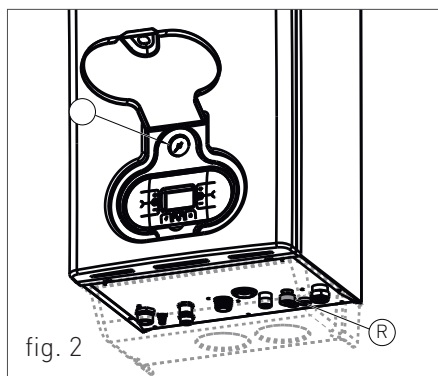

fig. 2
For boiler positioning, proceed as follows (see fig. 2):
3. open the filling tap "R" (fig. 2);
5. use pressure gauge "M" (fig. 2) to make sure that the system pressure reaches 1.2 bar (fig. 4);
6. after performing this operation, make sure that the filling tap "R" (fig. 2) is properly closed.